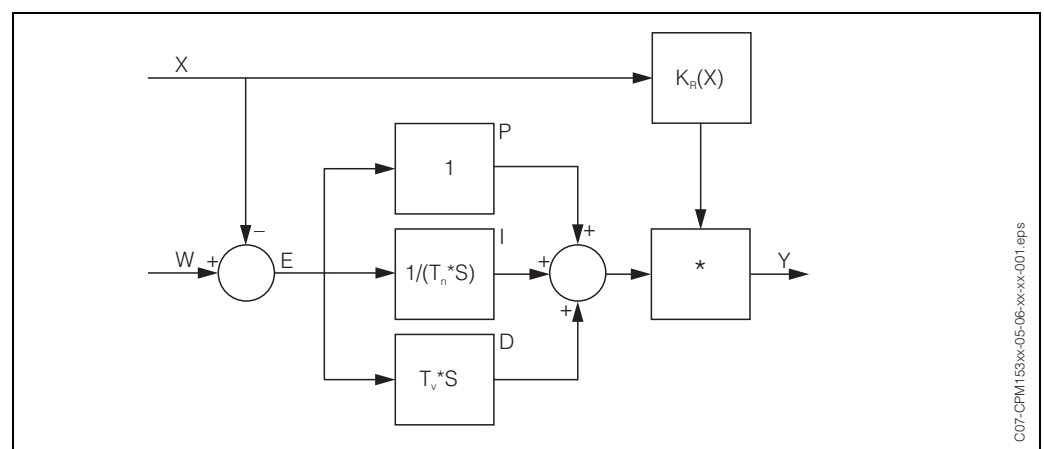

fig. 26: Schematic diagram of the CLM153 controller with $K_R(X)$ as the total gain
- The factor $K_R(X)$ is the total gain (see fig. 26. This is implemented in the CLM153).